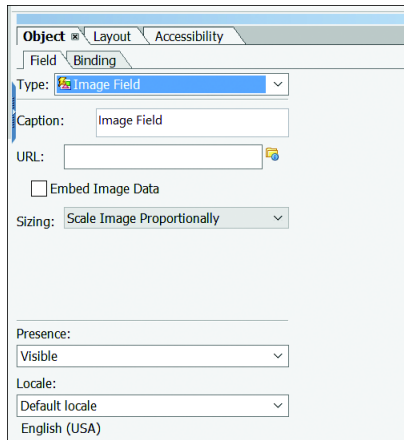

Figure 18.89 Object Palette
2. Click on the image field in the design view to set the object properties. In the OBJECT palette, as shown in Figure 18.89, you can set a caption for the image and provide the image URL and sizing.